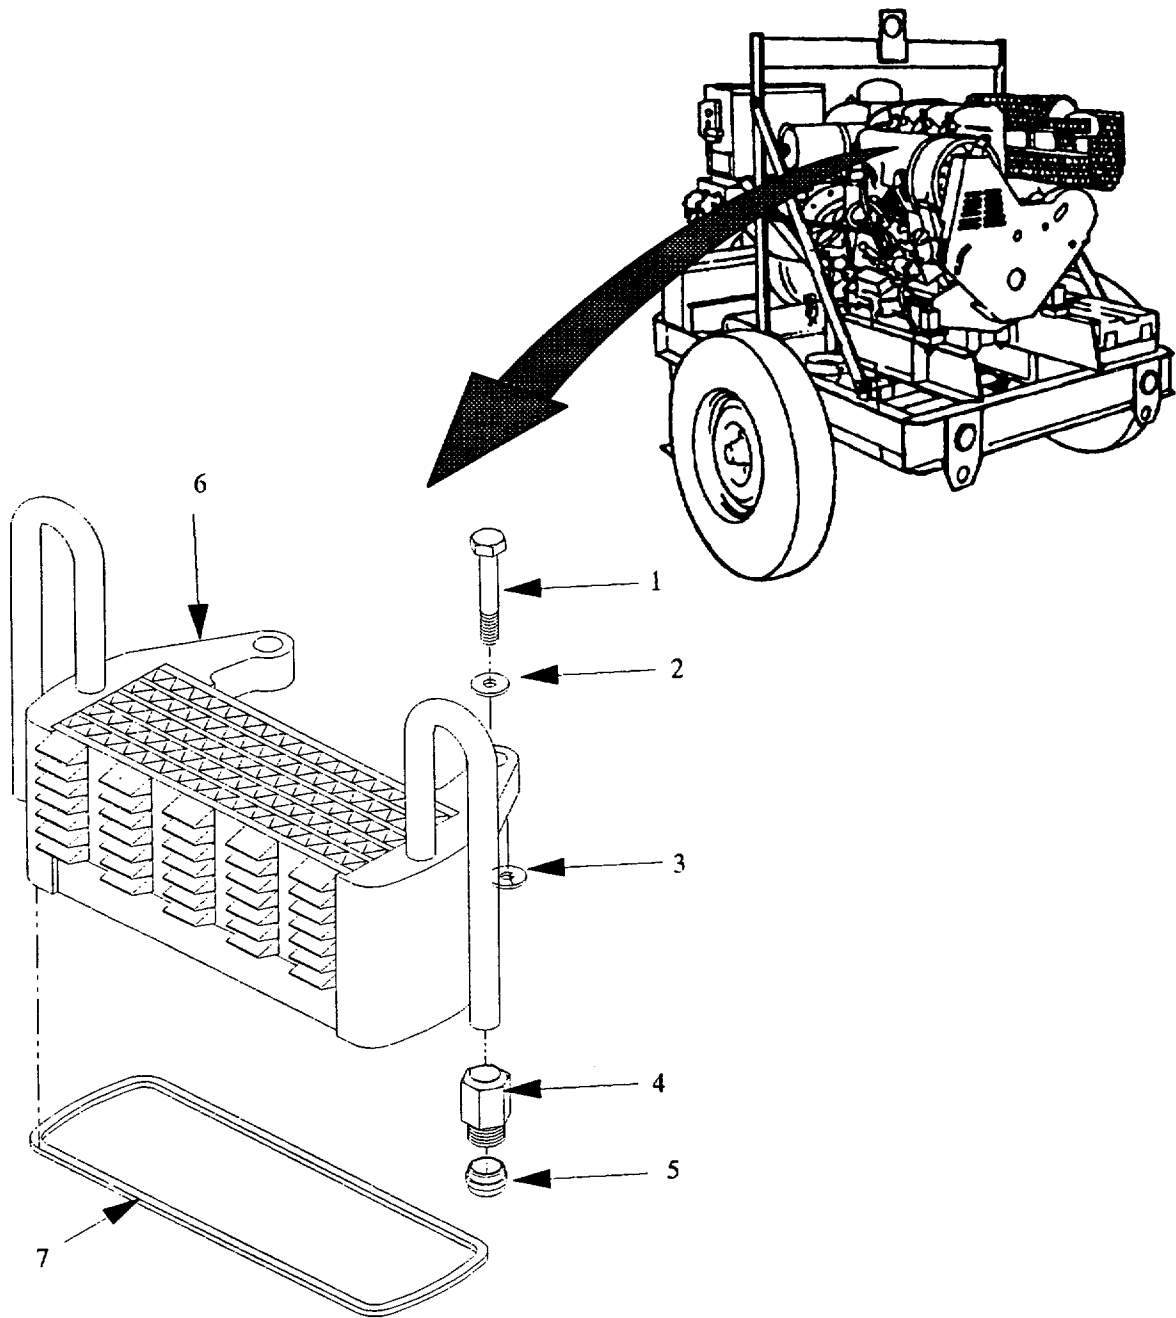

Figure 4-32.1. Cooling Coil Maintenance (Model 350 PAFN).
- a. Remove bolts (figure 4-32.1, 1) and flat washers (2 and 3).
- b. Unscrew nuts (4).
- c. Remove duplex rings (5), oil cooler (6), and cushion (7).
- a. Position nuts (figure 4-32.1, 4) and duplex rings (5) on oil cooler (6).
- b. Align cushion (7) and oil cooler (6) on engine to fittings.
- c. Tighten nuts(4) to secure oil cooler(7) and cushion(6) in place.
- d. Install flat washers (2 and 3) and bolts (1).